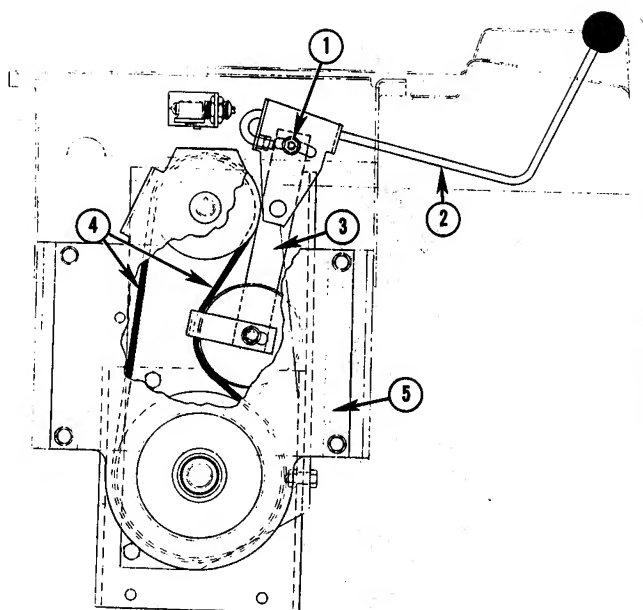

Fig. 28 — Rear PTO Belt Adjustment
1. Loosen nut, No. 1, Fig. 28.